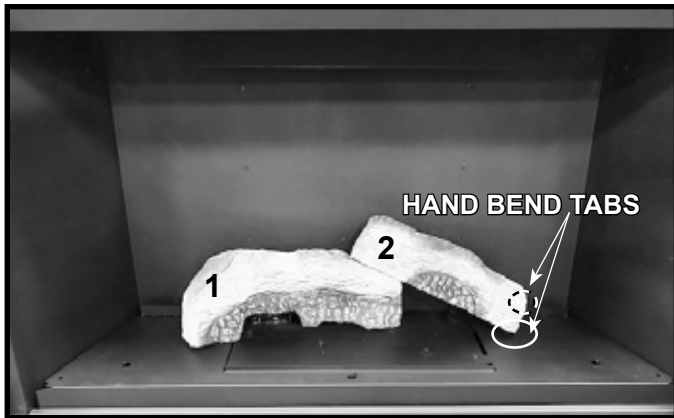

Figure 5. Install Log #2
3. **LOG #2:** Locate and install Log #2 by positioning the right end of the log against the two rear right hand bend tabs. The back right corner of the log will be placed between these tabs. The left side of the log will rest on Log #1. When installed correctly, the front face of Log #2 should be flush with the front face of Log #1. See Figure 5.